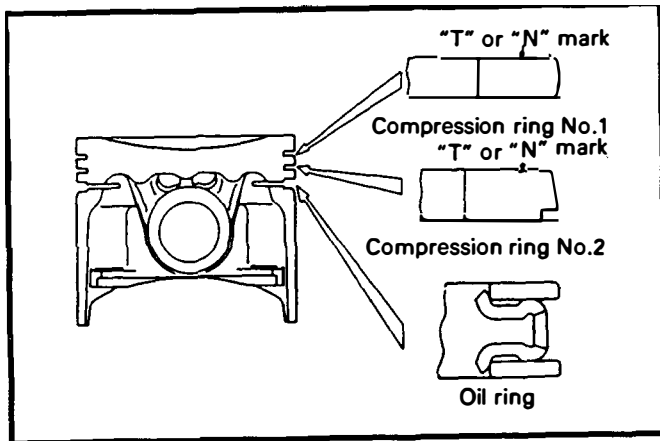

Figure 24.
- Make sure that the stamped marks "T" or "N" are on the top side. See Figure 24.